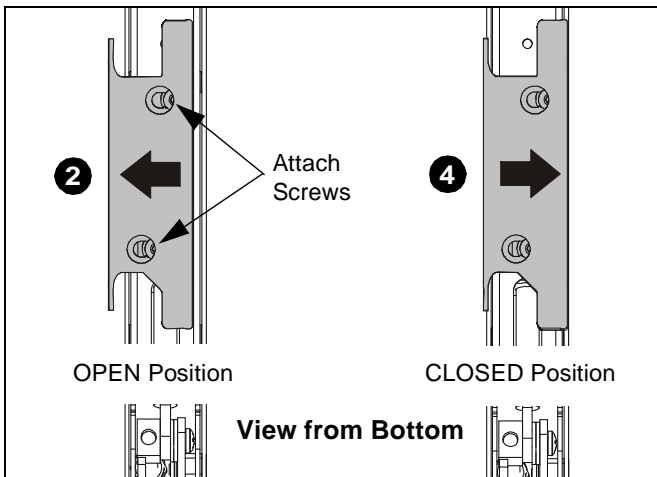

Figure 9
2. Open the cable management bracket by sliding it towards the edge of the arm (See Figure 9).
4. Close cable management bracket by sliding it back towards the center line of the arm (See Figure 9).